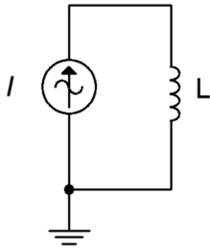

Figure 2.10
15. Draw the voltage and current waveforms for the circuit of Figure 2.10 if  $I$  is a two amp peak-peak sine at a frequency of 40 Hz and  $L = 33$  mH.